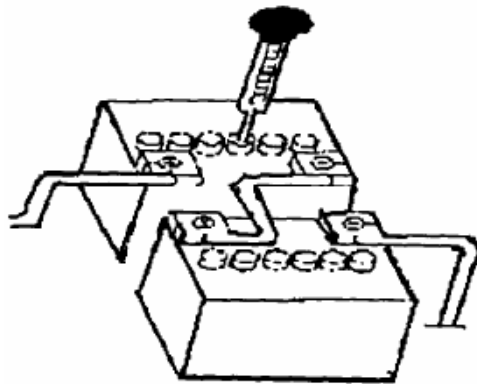

Figure 4-5
- a. Use an hydrometer and draw enough fluid from battery cell to allow indicator to float freely (see Figure 4-5).